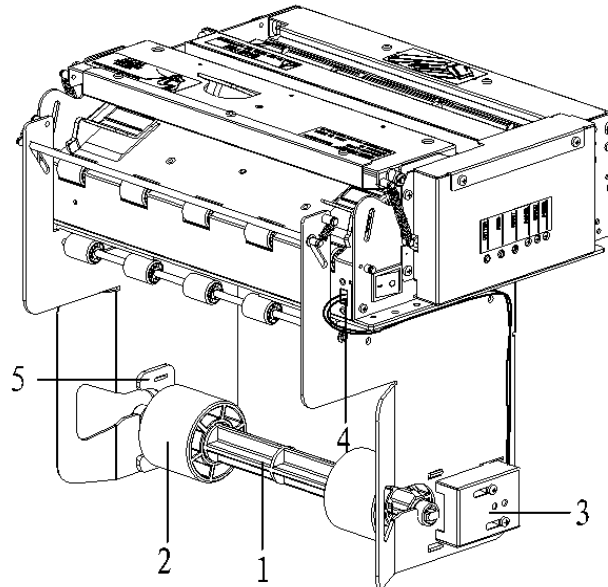

Figure 3.5.1 Vertical paper roll holder appearance
- ① User may check paper status by sending inquiring command (refer to “command set” for details) to the printer.
- ② Users can adjust the position of paper near end sensor to control the amount of remaining paper according to different paper roll diameter (see figure 3.5.1 and 3.5.2). To adjust the sensor, please loose those two fixing screws and